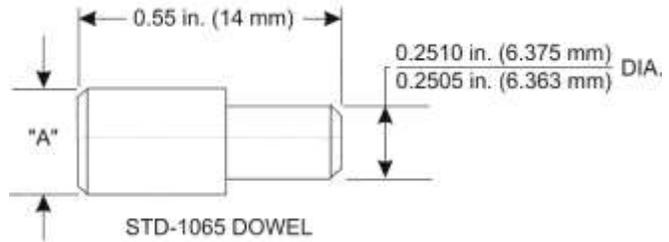

Figure 32
- E. Measure the diameter of the alignment dowel (Dimension A) shown in Figure 32 and determine if the measurement conforms to the values for the different alignment dowel part numbers in the latest revision of Service Bulletin No. SB-475.